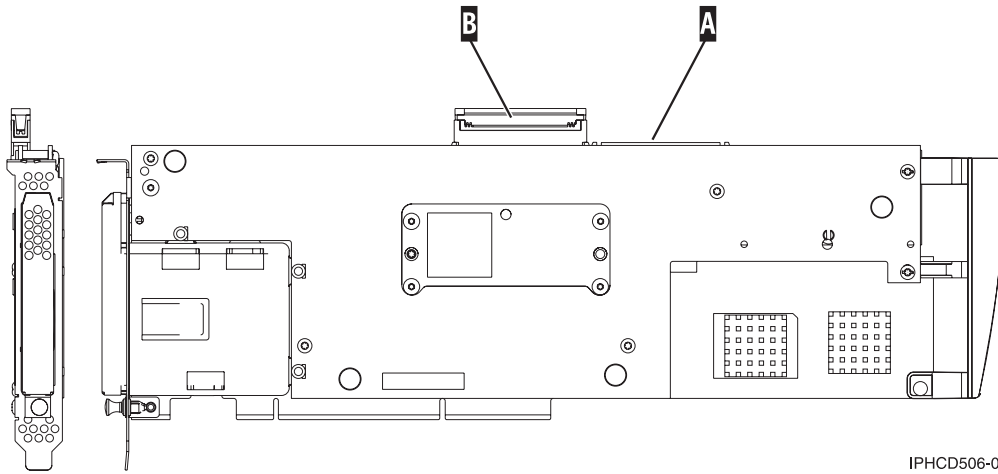

Figure 12. 5708, auxiliary-write cache IOA
2. Attach the cable to SCSI port **A** on the auxiliary-write cache adapter. See Figure 12 on page 42.